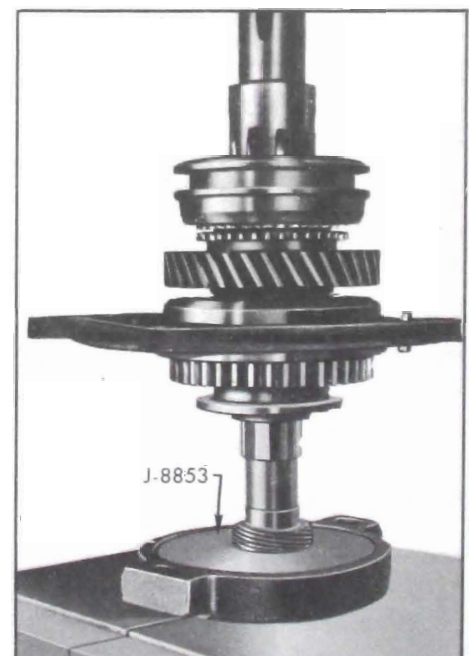
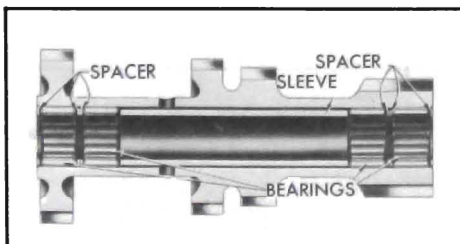

Figure 4-70—Installing Speedometer Drive Gear
Figure 4-71—Cross Section of Countergear Assembly
13. Press speedometer drive gear onto the mainshaft, using a J-8853, press plate. (See Figure 4-70). Position the speedometer gear to get a measurement of 4-1/2" from the center of the gear to the flat surface of the rear bearing retainer. (See Figure 4-71).